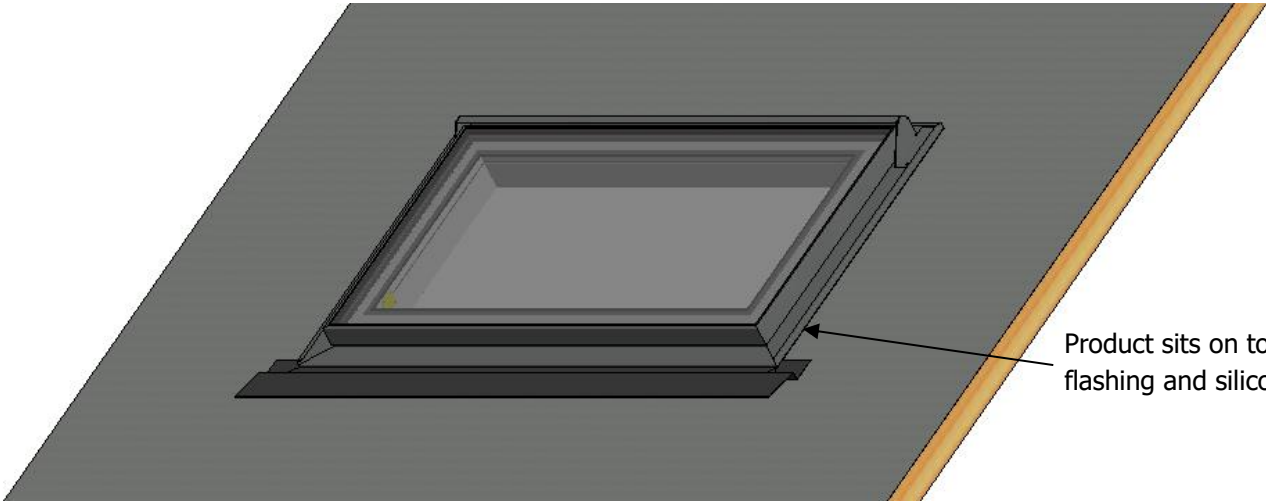

Fig. 4d – Place product centrally into aperture
- Place the product over the aperture (fig. 4d)